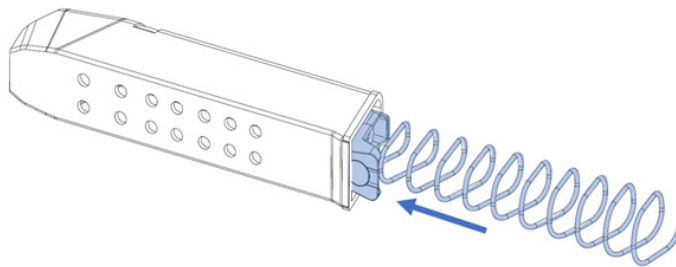

Figure 68: Direction to insert the follower with the spring.
8. Insert the follower and magazine spring into the magazine body (Figure 68).